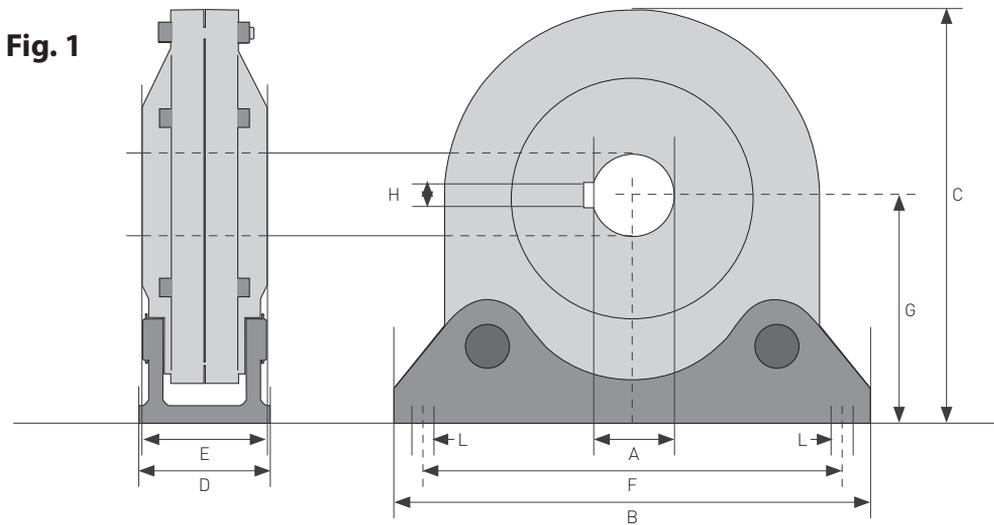

Fig. 1
- a) loosen the 6 screws (4 for the M3A) on the safety brake's central body according to the order shown in (fig. 1);
- c) proceed to tighten the screws following the order in (figure 1) and complete the tightening process with a torque wrench using the screw tightening torque values given in **table I**.